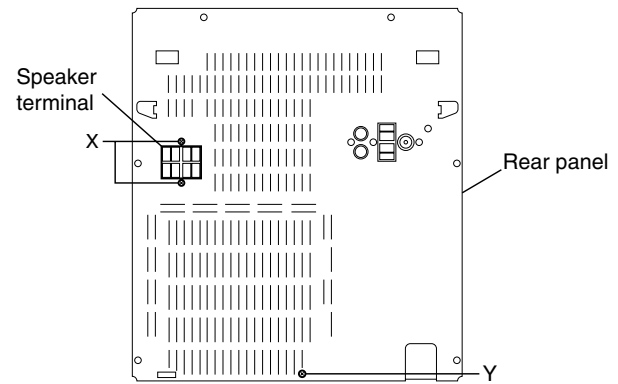

Fig.33
- Also remove the rear panel. (See Fig.33)
## ■ Removing the power amp and supply PCB and the power trans PCB (See Fig.33 to 37)